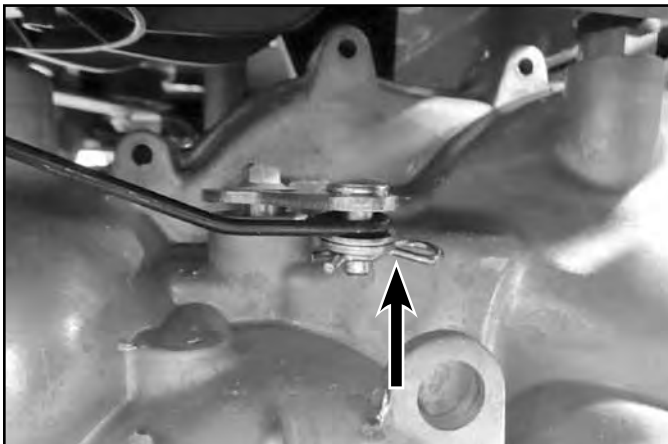

Fig. 087
10. Install the bypass lever, washer(s) and retaining clip (MX shown) (Fig. 087).